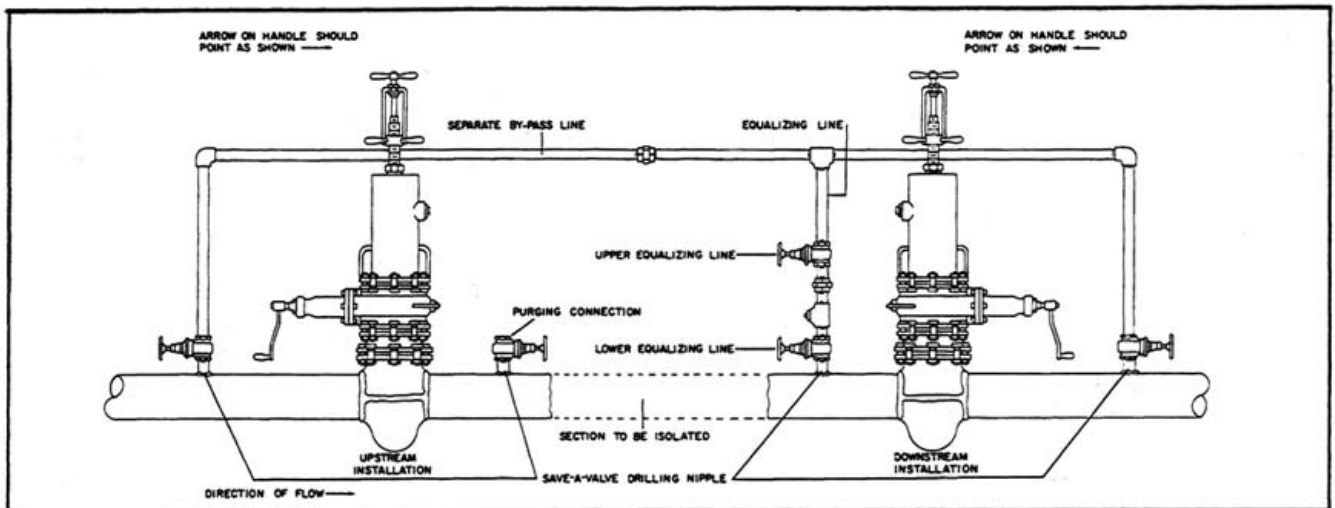

FIGURE 18
3. See **Figure 18** when using two stopping machines to isolate a section of pipe and using a separate by-pass line to maintain service.
2. If separate by-pass line is being used (**Figure 18**) the air is purged from the by-pass line by: